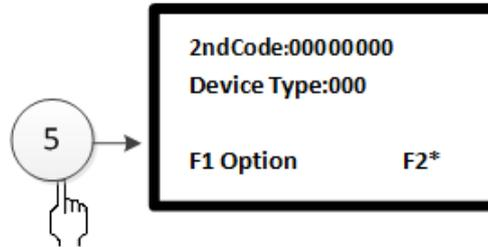

Fig. 3-23
⑤ Manual
Enter the screen as shown in Fig. 3-23 by pressing number 5 or moving cursor to select ⑤. In this screen, start or stop can be selected by setting user code and device type. Pressing “F1”selects Start or Stop. Pressing ESC after selection is back.